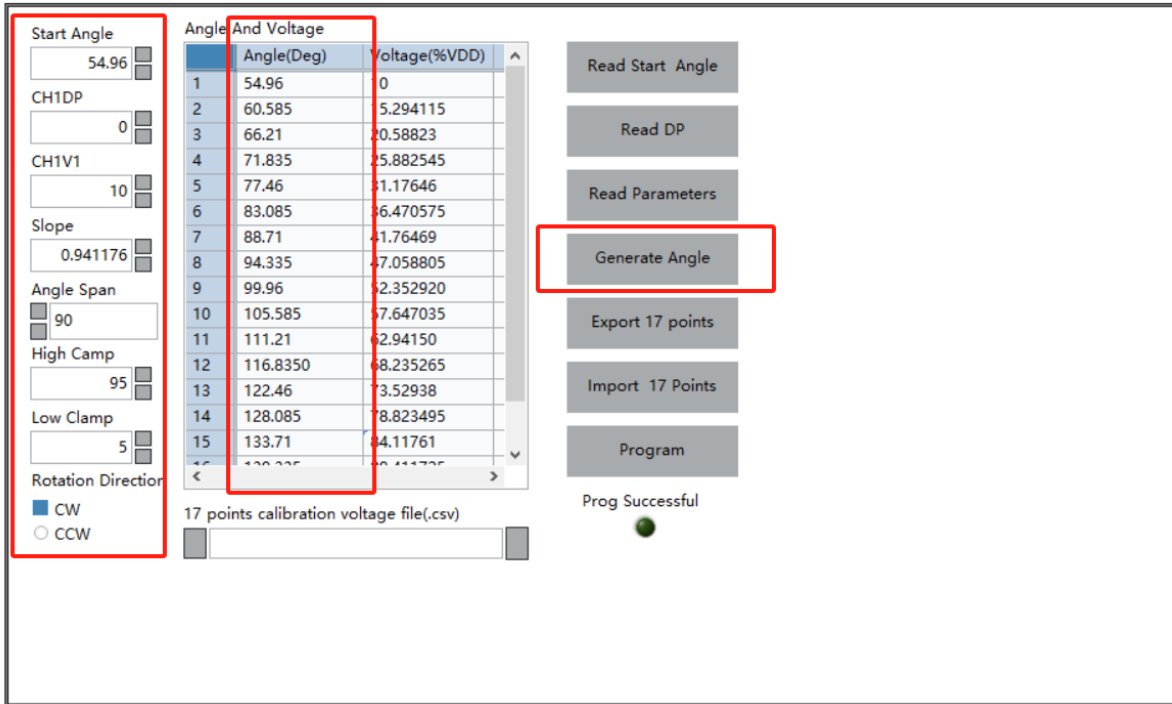

Figure 5.4.3 Fill in the fixed parameters and generate the angle voltage table
- 7、 Enter the 17-point programming interface, fill in the "CH1 Start Angle", "CH1DP", "Slope", "Angle Span" High/Low clamp and "Rotation direction" as shown in Figure 5.4.3. After filling in the parameters completely, click the "Generate Angle" button on the right. At this time, the software will calculate the Angle value used in programming according to the above parameters and fill in the "Angle" position in the middle table.